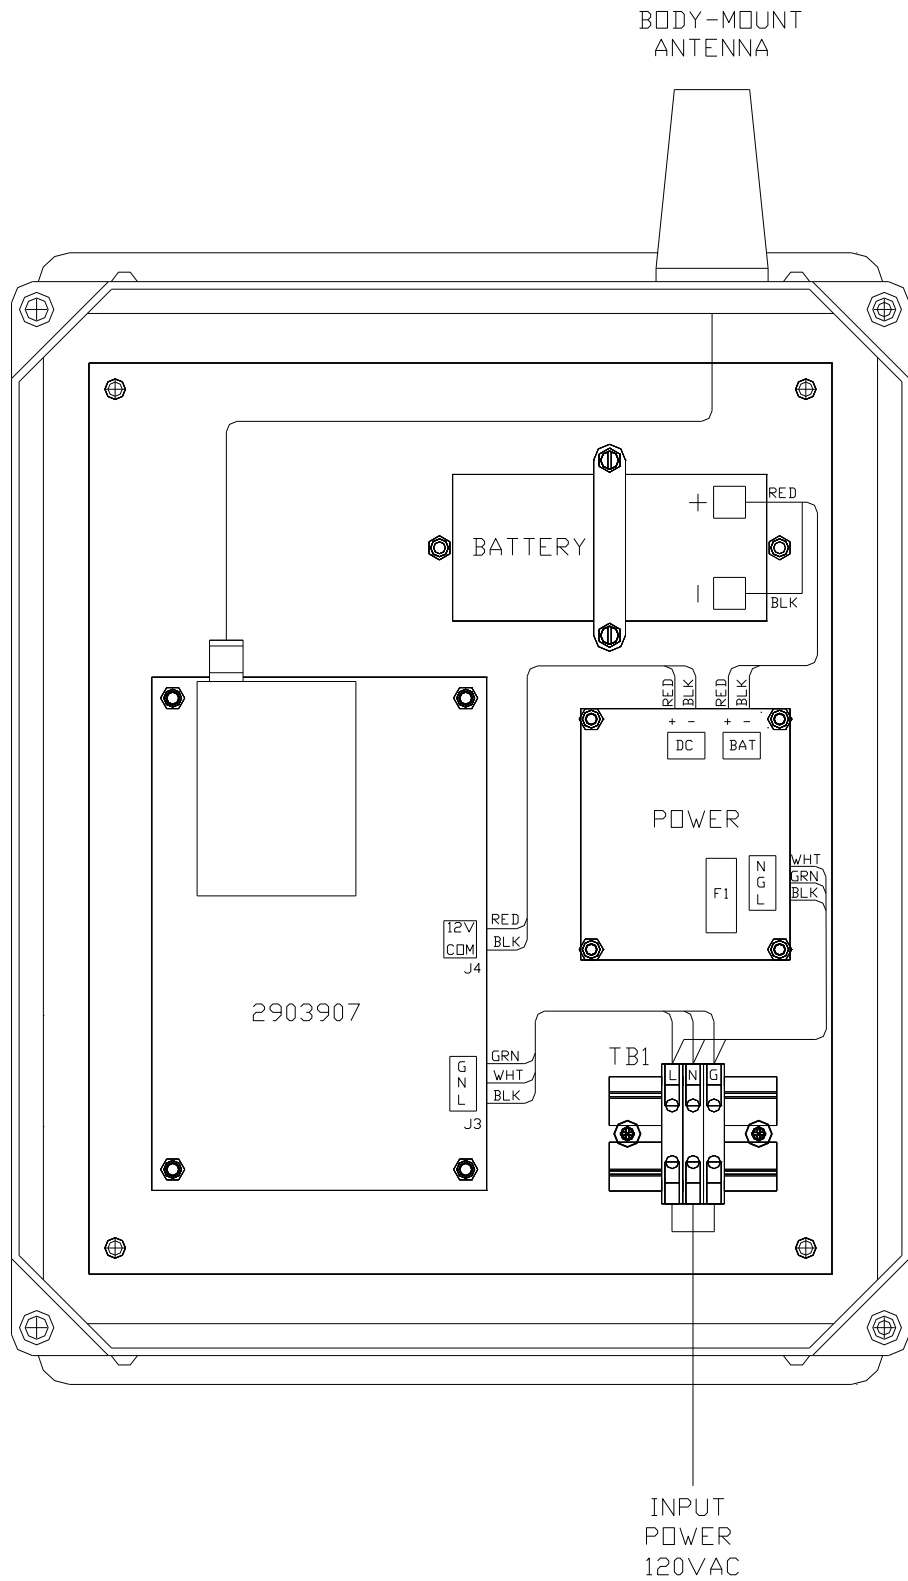

Figure 1-1 – FTW 171-3 / FTW 172-3 Internal Wiring & Component Layout
The component layout and internal wiring of the units are shown in Figure 1-1. The dry contact inputs are located on J2 of PCB 2903907 as shown in Figure 3-5.
3. Connect the red wire to + (Positive) and the black wire to – (Negative) on the battery as shown in Figure 1-1.